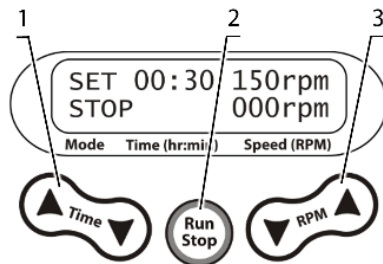

Figure 2. Control panel of PSU-10i
- 5.1.3 Set the required working time interval in hours and minutes (the increment is 1 min) using the ▼ and ▲ **Time** keys (fig. 2/1). Pressing the key for more than 2 s will increase the increment.
- 5.1.4 Set the required shaking speed (the increment is 10 rpm) using the ▼ and ▲ **RPM** keys (fig. 2/3). Pressing the key for more than 2 s will increase the increment. The set speed is displayed in the upper line of the display.
- 5.1.5 Press the **Run Stop** key (fig. 2/2). The platform starts rotation, indication **RUN** appears on display and the timer in the lower line of the display starts counting the time interval.